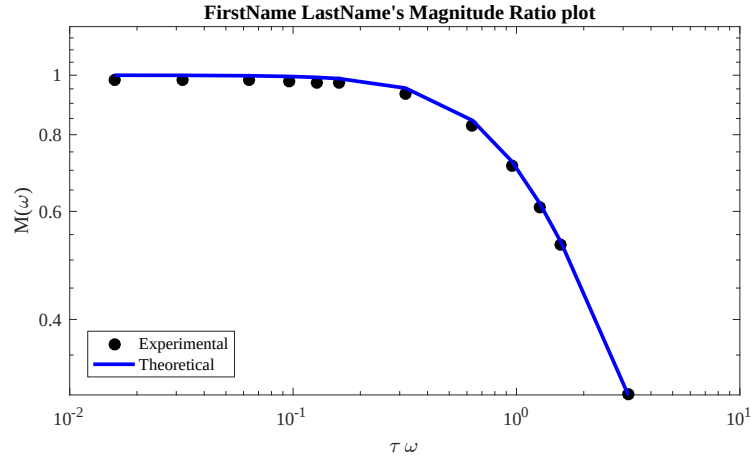

Figure 3: Sample magnitude ratio plot
- Magnitude Ratio Plot. Submit a single figure with both theoretical and experimental magnitude ratio plotted vs. frequency using a log-log scale. Make sure to properly annotate your plot. Use Fig. 3 as a reference